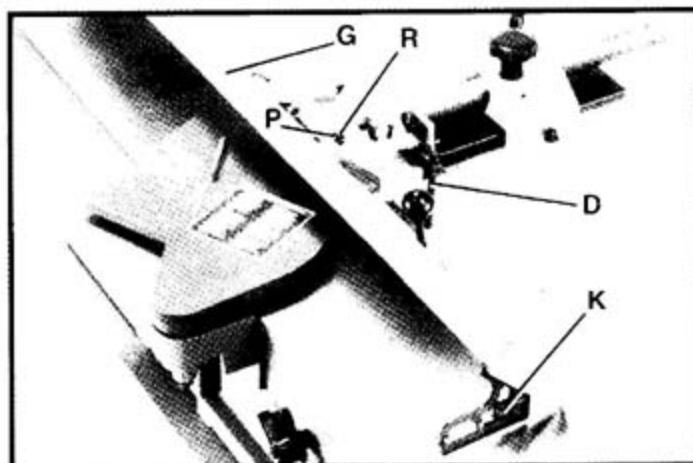

Fig. 56
7. Tilt the fence (G) Fig. 56, inward as far as it will go and tighten locking handle (D). Using a square (K) on the table and against the fence, check if the fence is 45 degrees inward to the table.
8. If an adjustment is necessary, loosen locknut (P) Fig. 56. Rotate screw (R) until you are certain the fence is 45 degrees inward to the table. Tighten locknut (P) and locking handle (D).